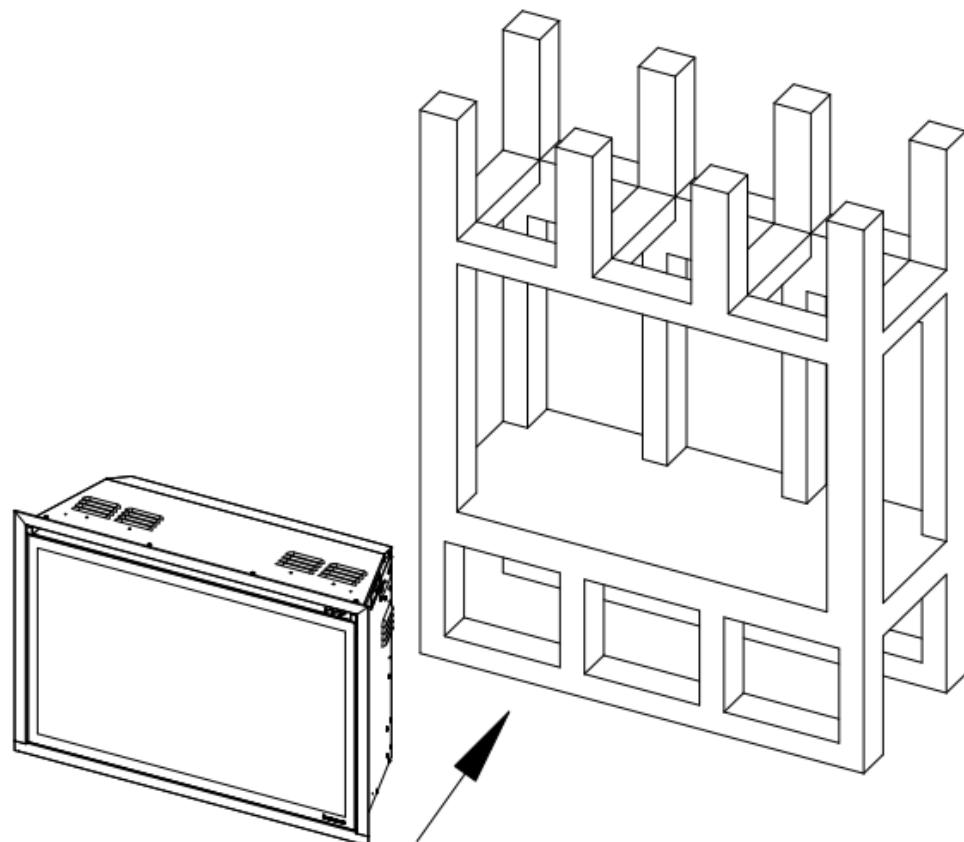

figure 3
- Position the appliance into the framework as shown in figure3